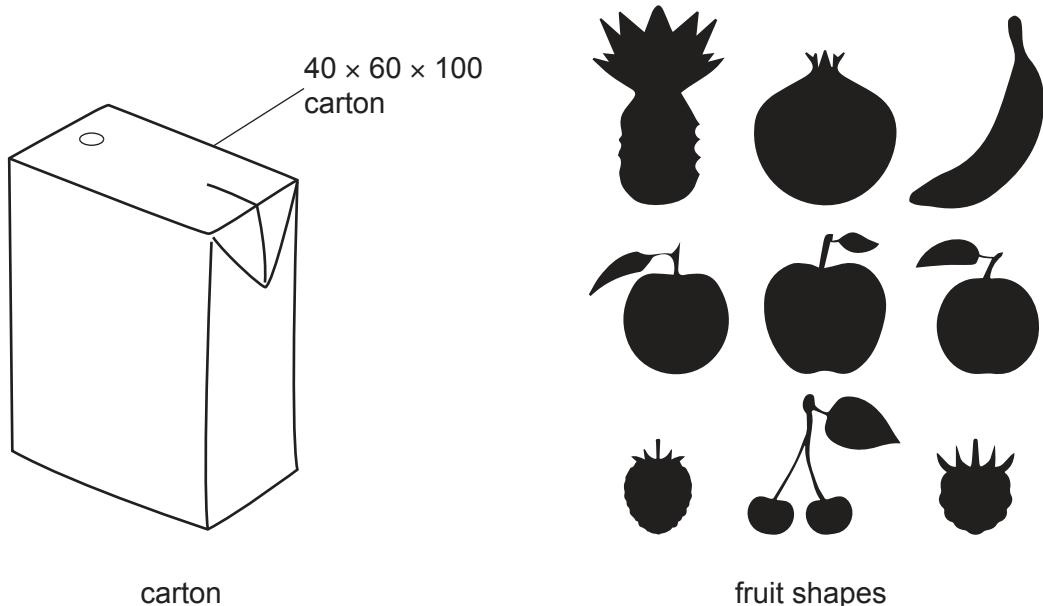

Fig. 8.1
8 Fig. 8.1 shows details of the design requirements for a package for six cartons of fruit drink.
- (a) Use notes and sketches to **develop** a design for a development (net) for a package to hold six cartons of fruit drink of the size shown in Fig. 8.1. The package must be based on the shape of a fruit. [20]